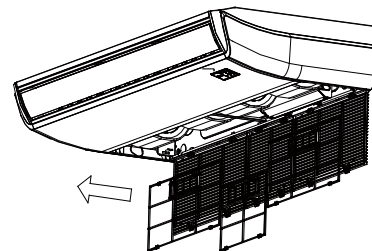

Fig. 6-3
- Directly pull out the air filter from air inlet as indicated in Fig.6-3.
- Re-install the air filter in the reverse order of Fig.6-3.